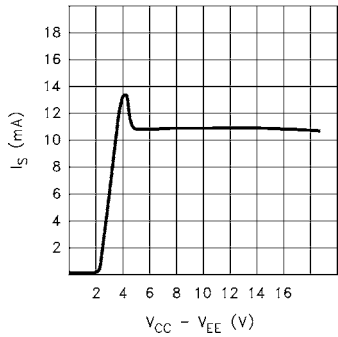

FIGURE 1. IS vs SUPPLY VOLTAGE
**H2** The second harmonic arises from the input stage, and the lower the applied differential signal amplitude, the lower the magnitude of the second harmonic. For practical considerations of required output signal and input noise levels, the user will end up choosing a circuit gain. Referring to Figure 1, it is best if the voltage at the negative feedback node tracks the VREF node, and the voltage at the positive feedback node tracks the VIN node respectively. This would theoretically require that R1 + R2 = R3, although the lowest distortion is found at about R3 = R1 + (0.7\*R2). With this arrangement, the second harmonic should be suppressed well below the value of the third harmonic.